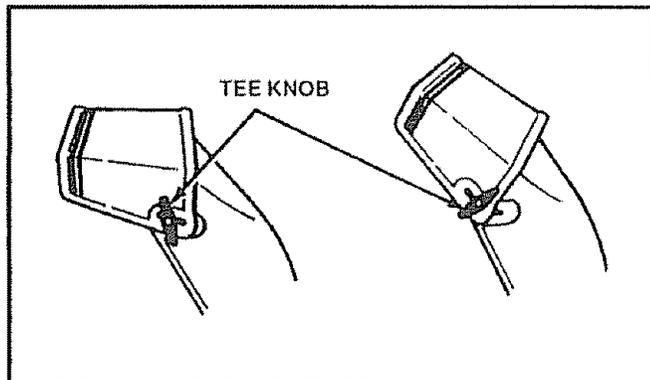

FIG. 5
- Loosen the tee knob on the chute deflector and move the deflector to set the distance. Move the deflector UP for more distance, DOWN for less distance. Then tighten the tee knob (See Fig 5)